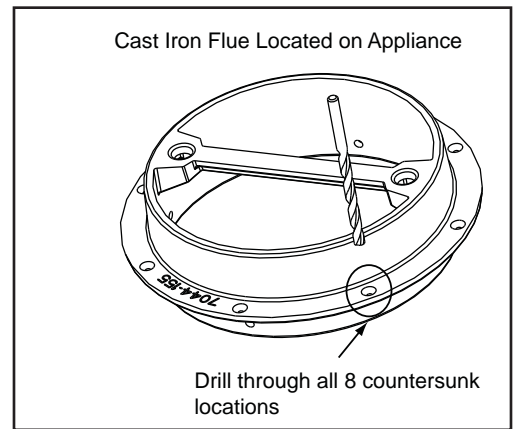

Figure 40.2
1. Remove the cast iron flue collar from the appliance and flip it upside down. Using the larger #7 drill bit supplied, drill through all 8 countersunk locations. **Figure 40.2**.